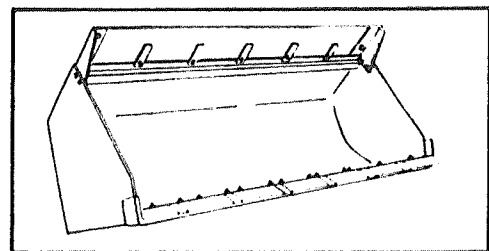

FIG. 29
4. Bolt clamp to spill plate with end of clamps overlapping top edge of bucket as shown in Figure 29.